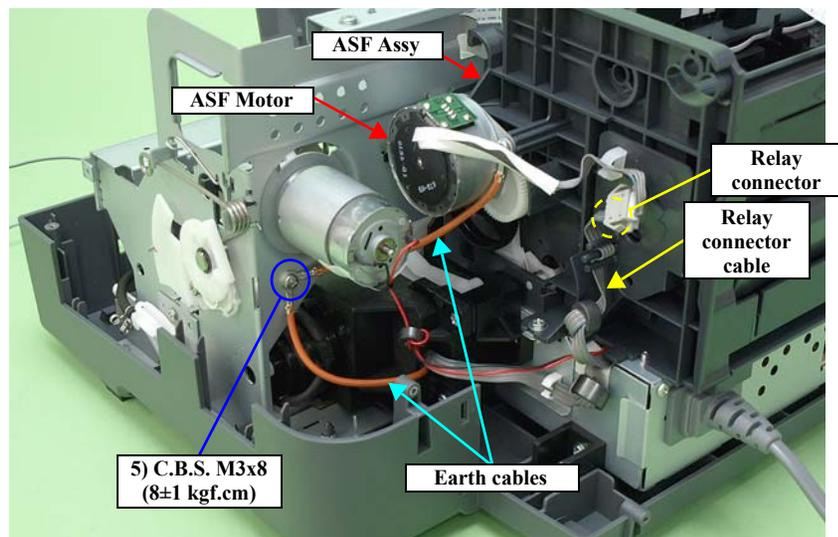

Figure 3-82. Releasing the Cables (1)
- Referring to Figure 3-82, correctly route the Relay connector cable.